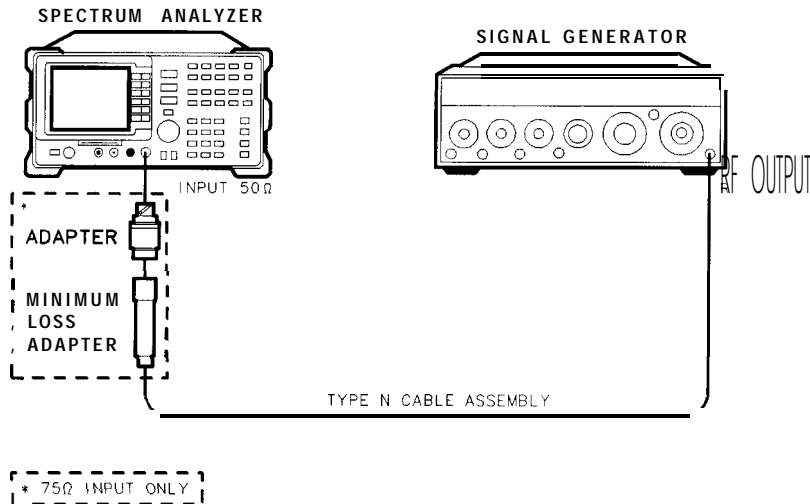

Figure 2-14. Residual FM **Test** Setup
1. Connect the equipment as shown in Figure 2-14.